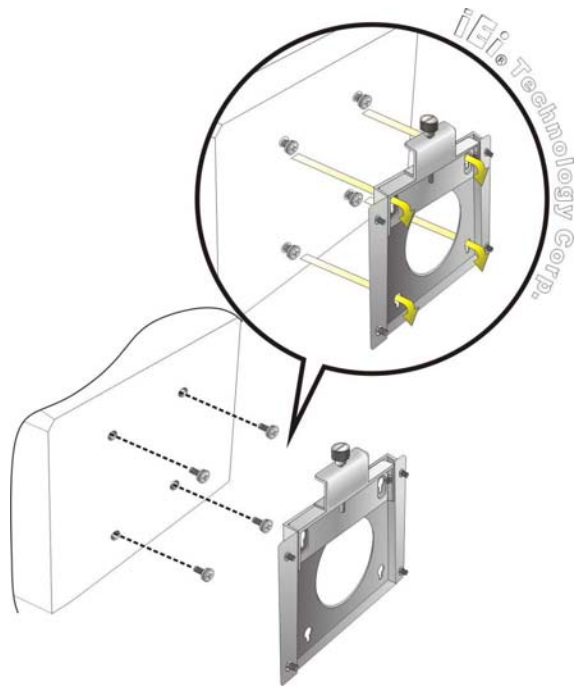

Figure 3-10: Chassis Support Screws
Step 6: Insert the four monitor mounting screws provided in the wall mount kit into the four screw holes on the rear panel of the flat bezel panel PC and tighten until the screw shank is secured against the rear panel (**Figure 3-10**).
Step 8: Carefully insert the screws through the holes and gently pull the monitor downwards until the monitor rests securely in the slotted holes (**Figure 3-10**). Ensure that all four of the mounting screws fit snugly into their respective slotted holes.